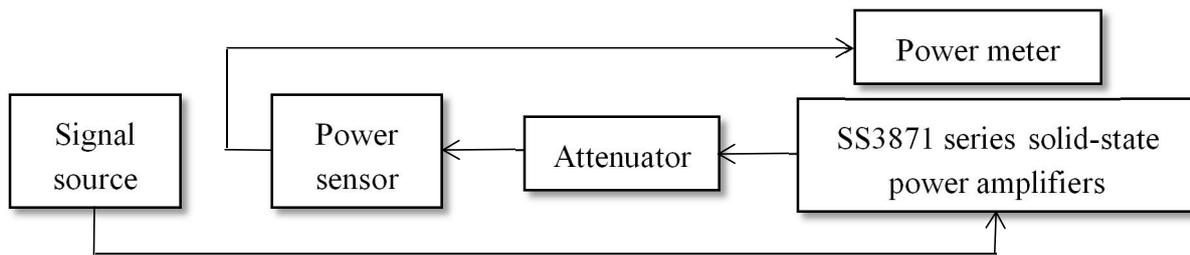

Figure 5-2 Diagram for testing of max. output power, max. input power and output power flatness
The specific operation steps for testing the following indicators are provided according to the testing instrument shown in the figure. When other testing instruments with the same performance characteristics are used for testing, please refer to the User Manual of such instruments for the specific operation. A signal source and a power meter as shown in Figure 5-2 can also be used to test the gain.
- ① Max. output power test: connect the instrument as shown in Figure 5-2, set the working frequency range of the signal source to 32GHz - 40GHz with the stepping by 0.5GHz, set the output power of the signal source connected to the input port of the amplifier to 0dBm or any other value that can make the amplifier in the working state of saturated output, record the reading on the power meter at each test frequency point, and calculate the sum of the max. output power degree and the attenuation value on the attenuator, which is just the max. output power.
- ② Max. input power test: observe the working state of the amplifier at the max. input power. It is required that the amplifier should be able to work normally without damage at each test frequency point and return to the original working state when it is lower than the max. input power.
- ③ Output power flatness test: place the internal amplitude stabilization key on the rear panel of the instrument to the "Internal Amplitude Stabilization" working state, test and record the output power of the 1dB compression point at each test frequency point, and calculate the average value of the max. and min. output powers. Neither the max. nor the min. output power should exceed the flatness requirement, namely, it should be in the range of 3dB above the average value and 3dB below the average value.
(4) 1dB Compression Point Output Power Test
Connect the instrument as shown in Figure 5-2, set the working frequency range of the signal source to 32GHz - 40GHz with the stepping by 0.5GHz, set the output power of the signal source connected to the input port of the amplifier to -30dBm or any other value that can make the amplifier in the working state of linear amplification, increase the output power of the signal source, record the reading on the power meter when the gain is compressed by 1dB, then calculate the sum of this value and the attenuation value on the attenuator, which is just the output power of the 1dB compression point.